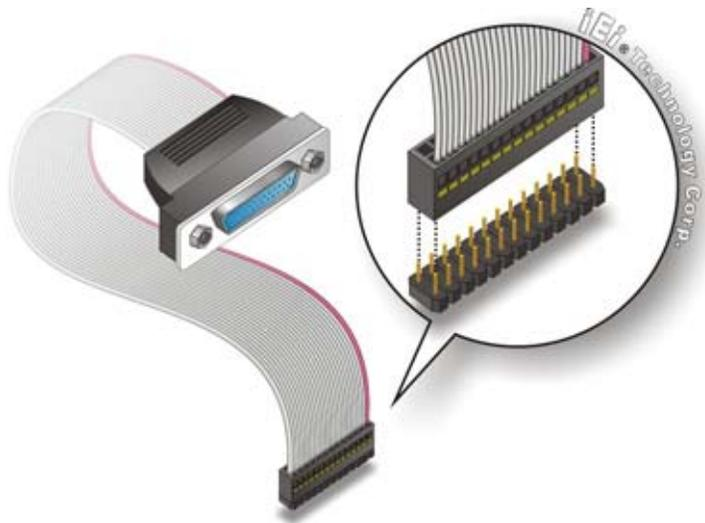

Figure 4-10: LPT Cable Connection
Step 2: Align the connectors. Correctly align pin 1 on the cable connector with pin 1 on the PCISA-945GSE LPT box-header connector. See Figure 4-10.
Step 3: Insert the cable connectors Once the cable connector is properly aligned with the 26-pin box-header connector on the PCISA-945GSE, connect the cable connector to the on-board connector. See Figure 4-10.